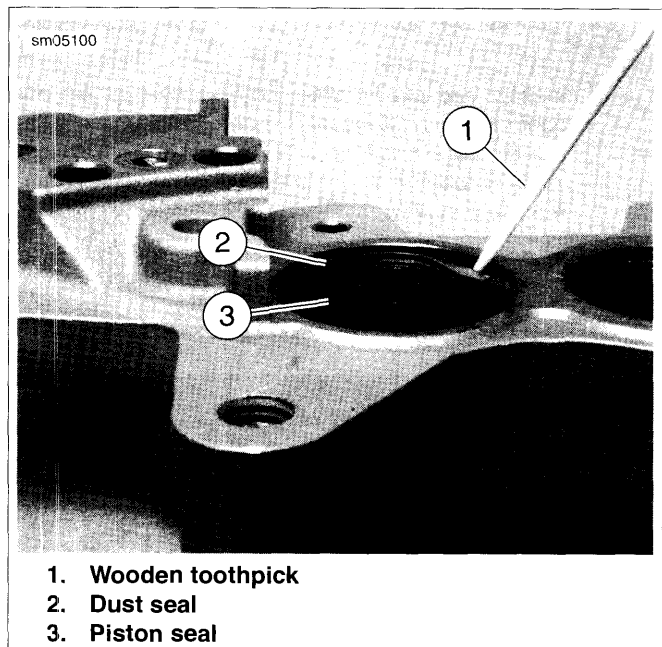

Figure 2-75. Caliper Seals
- See Figure 2-75. Using a wooden toothpick (1), remove dust seal (2) and piston seal (3) from each caliper bore. Discard seals.
2. See Figure 2-75. Install a **new** piston seal (3) and a **new** dust seal (2) into each piston bore.